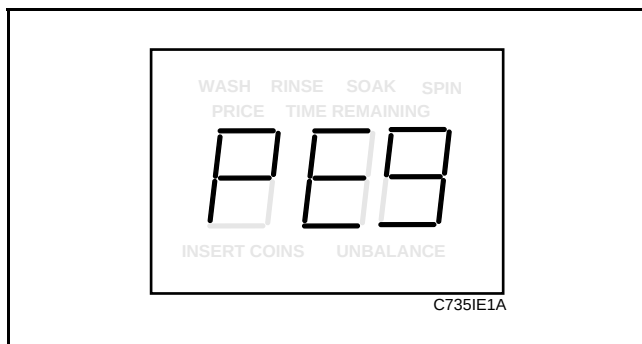

Figure 53
3. Press the DELICATES (+) pad or the COLD (-) pad to scroll through the programmable options until “PEg” appears in the VFD. See **Figure 53**.